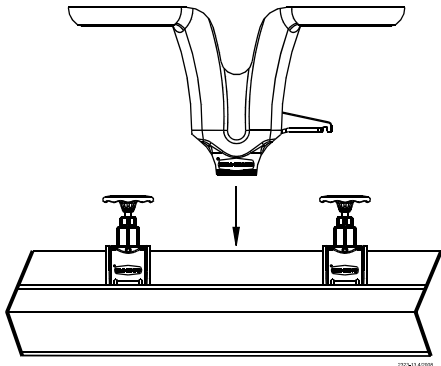

Figure 21. ADVANTI-FLOW Cup Installation
3. Turn pipe assembly over and install cup over the water pipe. The cup is to be located between a pair of saddle assemblies, (See Figure 21).